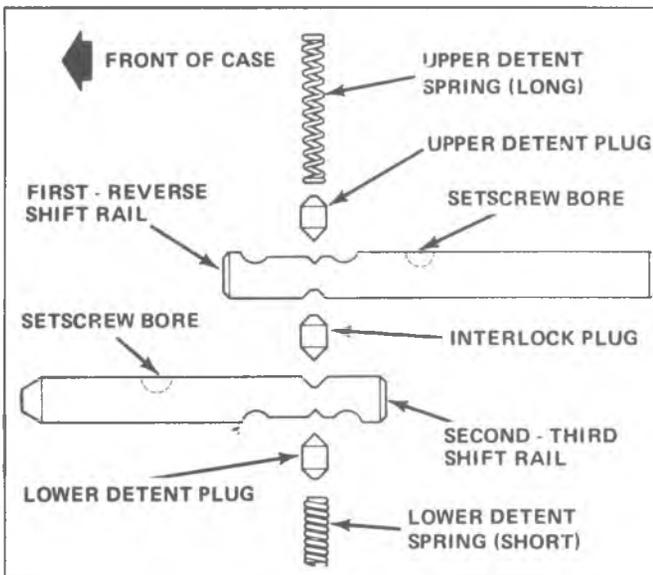

Fig. 7B-21B--Installation Sequence - Detent Plugs and Springs
7. Align bore in countergear with countershaft and front thrust washer, then start countershaft into countergear. Before countershaft is completely installed make sure that roll pin hole in countershaft is aligned with hole in case. When holes are aligned, tap countershaft into place, remove tool J-25232 (Fig. 7B-5B).
10. Lower shorter detent spring in detent bore in case (Fig. 7B-21B). Allow spring to drop into place at bottom of Second-Third shift rail bore. Insert lower detent plug in detent bore on top of spring.